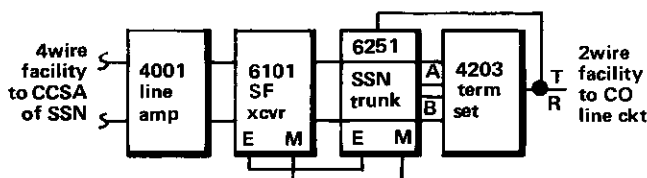

figure 2. Typical SF application, 4wire to 2wire
2.06 On the CO side, the 6251 makes connection to the line circuit via the tip, ring, A, and B leads of an associated transmission device — usually a terminating set (Tellabs 420X) or repeat coil (Tellabs 442X). Figure 2 shows a typical arrangement.